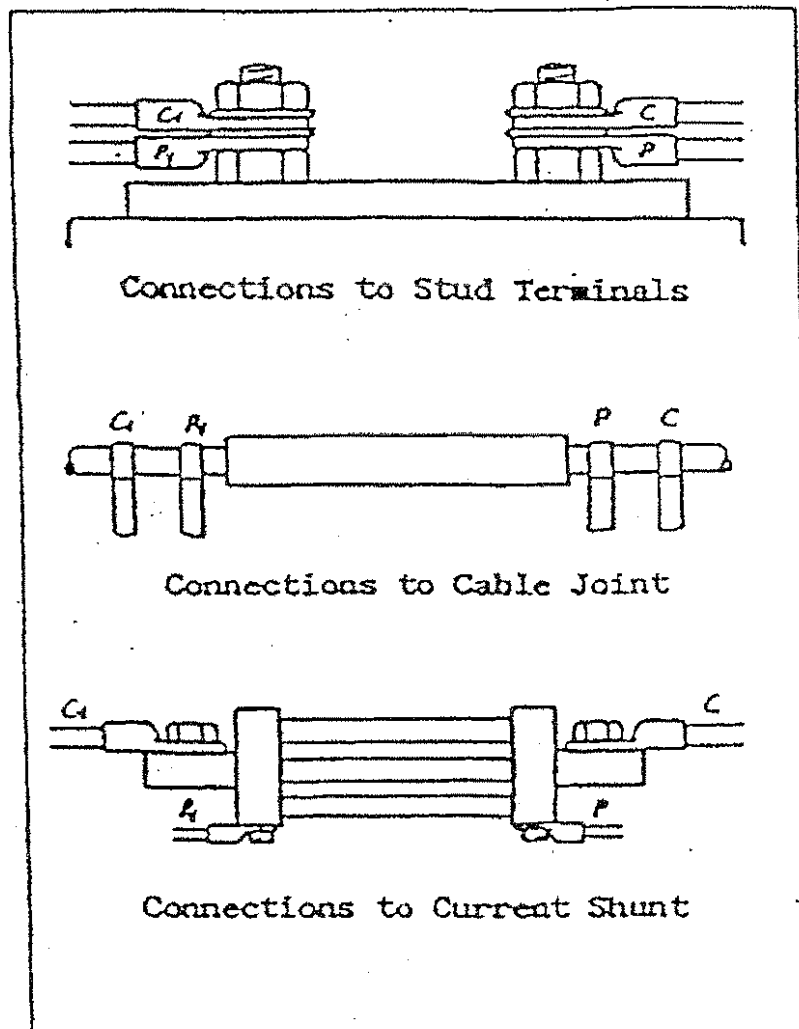

Fig. 9.2 Various types of resistors
- d) Fig. 9-2 illustrates connections to various types of test resistors.